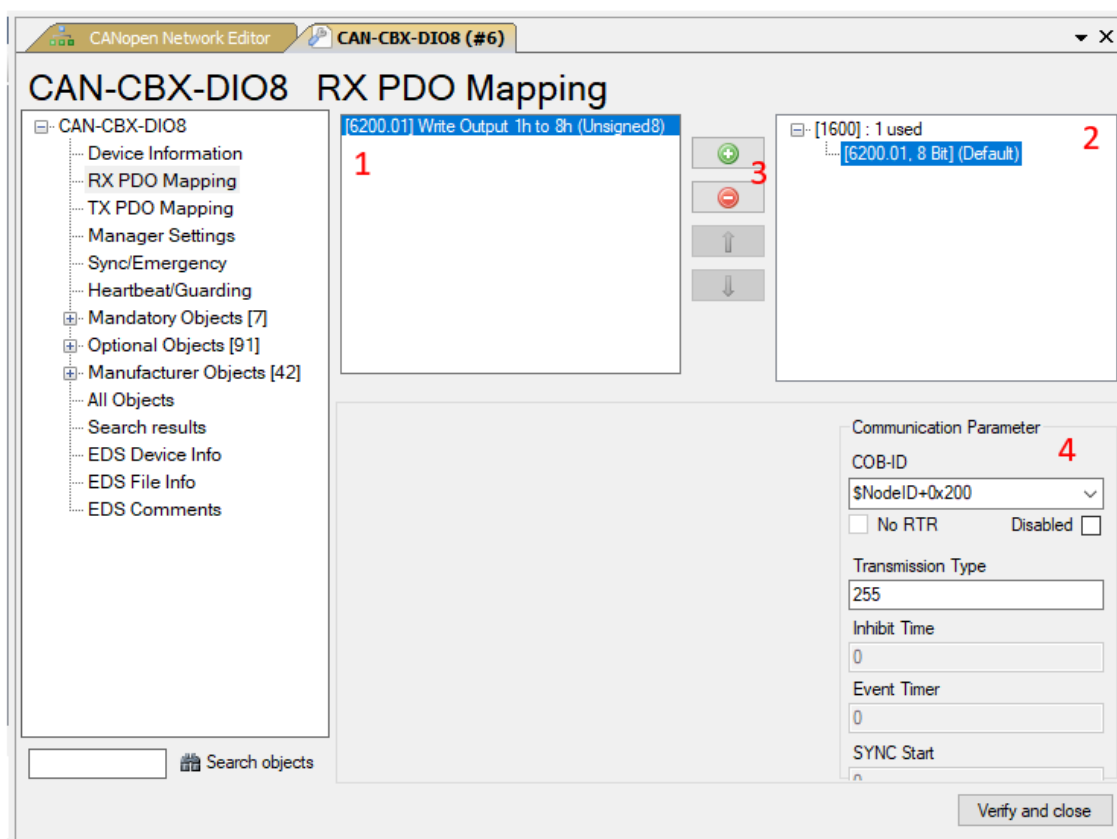

Figure 26: GSDML Composer RPDO Mapping
The window consists of the following sections (see Figure 26):
| Object Selection (see Figure 26, 1) | This list shows all objects that can be mapped in a PDO. It is defined in the EDS file by [PDOMapping] and [AccessType] of the CANopen object. | | | | | | | | | | | | | | | | | | | | | | | | | | | | |
| PDO Selection (see Figure 26, 2) | In this list all PDOs and their contents are shown. The example in Figure 26 shows the PDO 0x1600 containing the mapped object “[6200.01, 8 Bit] (Default)”: The mapped object is at index 0x6200, sub-index 0x01 and has 8-bit data width. Default indicates that this value complies with the EDS DefaultValue for the PDO object. | | | | | | | | | | | | | | | | | | | | | | | | | | | | |
| Communication Parameter (see Figure 26, 4) | In this section the COB-ID and the transmission type of the PDO can be specified. <table border="1" style="width: 100%; border-collapse: collapse;"> <thead> <tr> <th>Parameter</th> <th>Description</th> </tr> </thead> <tbody> <tr> <td>COB-ID</td> <td>The CAN-ID of the selected PDO. In accordance with CiA 306 (6) in the EDS file \$NodeID+ may be used as prefix. This is allowed here too, and the COB-ID is calculated when exported based of the node ID.</td> </tr> <tr> <td>No RTR</td> <td>No Remote Transmit Request</td> </tr> <tr> <td>Disabled</td> <td>Here the process data channel, containing the COB-ID specified above, can be disabled.</td> </tr> <tr> <td>Transmission Type</td> <td>The following transmission types can be configured: <table border="1" style="width: 100%; border-collapse: collapse;"> <tbody> <tr> <td>0x00</td> <td>Acyclic with SYNC</td> </tr> <tr> <td>0x01</td> <td>Cyclic with every SYNC</td> </tr> <tr> <td>0x02 ... 0xF0</td> <td>Cyclic with every SYNC as specified here (2nd up to 240th)</td> </tr> <tr> <td>0xFC</td> <td>On RTR (sampling of the values to SYNC)</td> </tr> <tr> <td>0xFD</td> <td>On RTR (sampling of the values at RTR)</td> </tr> <tr> <td>0xFE</td> <td>Event based (manufacturer-specific)</td> </tr> <tr> <td>0xFF</td> <td>Event based (profile-specific)</td> </tr> <tr> <td>SYNC:</td> <td>Transmission is triggered at reception of a SYNC telegram</td> </tr> <tr> <td>Event based:</td> <td>Transmission is independent of the SYNC telegram</td> </tr> </tbody> </table> </td> </tr> </tbody> </table> <p>All other parameters do only apply to TPDOs (see chapter 5.5.12.3).</p> | Parameter | Description | COB-ID | The CAN-ID of the selected PDO. In accordance with CiA 306 (6) in the EDS file \$NodeID+ may be used as prefix. This is allowed here too, and the COB-ID is calculated when exported based of the node ID. | No RTR | No Remote Transmit Request | Disabled | Here the process data channel, containing the COB-ID specified above, can be disabled. | Transmission Type | The following transmission types can be configured: <table border="1" style="width: 100%; border-collapse: collapse;"> <tbody> <tr> <td>0x00</td> <td>Acyclic with SYNC</td> </tr> <tr> <td>0x01</td> <td>Cyclic with every SYNC</td> </tr> <tr> <td>0x02 ... 0xF0</td> <td>Cyclic with every SYNC as specified here (2nd up to 240th)</td> </tr> <tr> <td>0xFC</td> <td>On RTR (sampling of the values to SYNC)</td> </tr> <tr> <td>0xFD</td> <td>On RTR (sampling of the values at RTR)</td> </tr> <tr> <td>0xFE</td> <td>Event based (manufacturer-specific)</td> </tr> <tr> <td>0xFF</td> <td>Event based (profile-specific)</td> </tr> <tr> <td>SYNC:</td> <td>Transmission is triggered at reception of a SYNC telegram</td> </tr> <tr> <td>Event based:</td> <td>Transmission is independent of the SYNC telegram</td> </tr> </tbody> </table> | 0x00 | Acyclic with SYNC | 0x01 | Cyclic with every SYNC | 0x02 ... 0xF0 | Cyclic with every SYNC as specified here (2 nd up to 240 th) | 0xFC | On RTR (sampling of the values to SYNC) | 0xFD | On RTR (sampling of the values at RTR) | 0xFE | Event based (manufacturer-specific) | 0xFF | Event based (profile-specific) | SYNC: | Transmission is triggered at reception of a SYNC telegram | Event based: | Transmission is independent of the SYNC telegram |